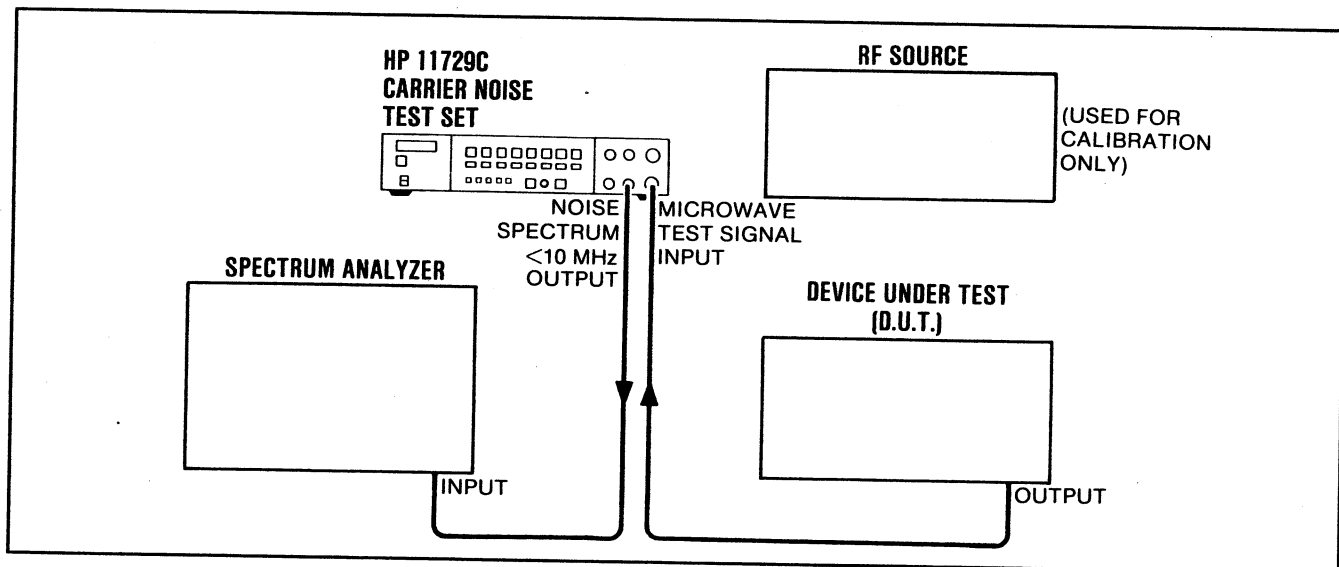

Figure 3-8. Interconnections to the Carrier Noise Test Set When Making an AM Noise Measurement
- Figure 3-8 shows interconnections to the Carrier Noise Test Set when making an AM noise measurement.